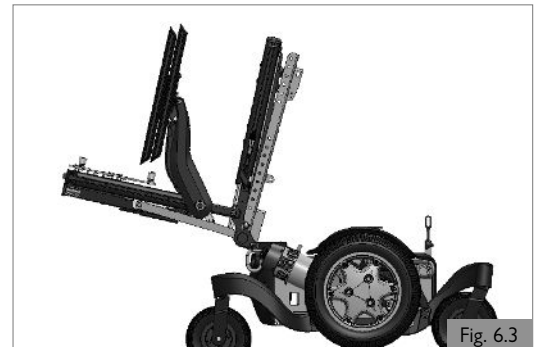

Fig. 6.3
2. Carefully flip the seat frame backwards (Fig 6.3) until the seat frame is in the fully opened position.